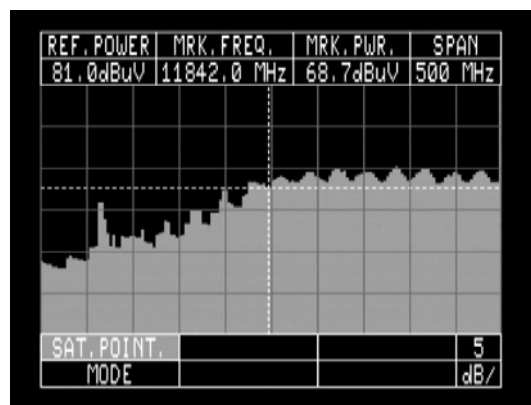

Fig.1 LNB noise, without carriers
- g) At this point the SAT POINT function has already automatically set the best SAT spectrum vision for you to carry out satellite dish pointing, without having to touch your meter again (see fig.1).